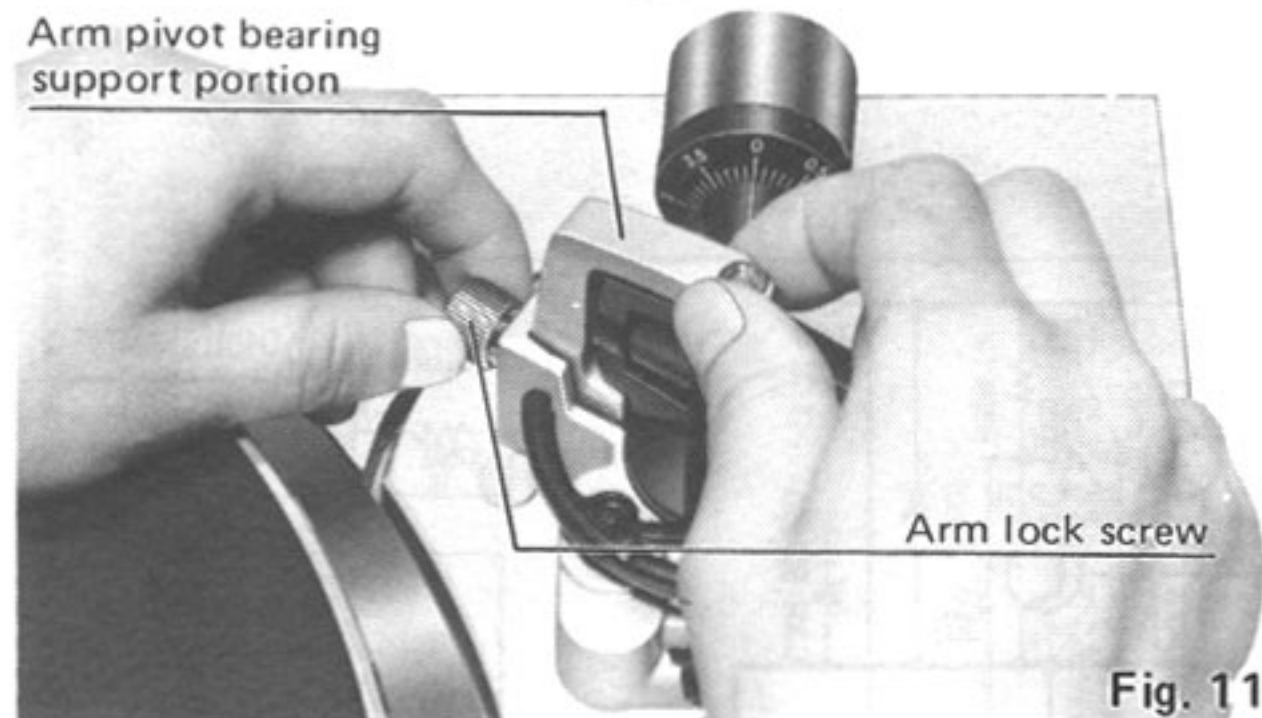
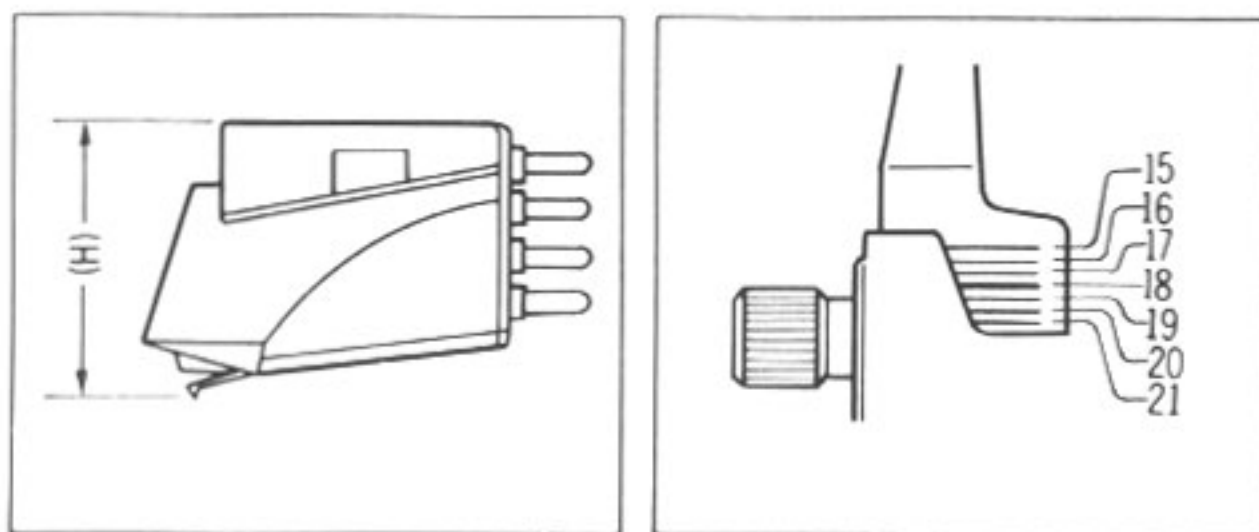

Fig. 11
Fig. 12
**Adjustment of the arm height. (See Fig. 11, 12)**
- If the cartridge height is 18 mm as shown in figure 11, align the fourth line ("18") on the gimbal support portion with the arm base edge as shown in the picture. (See Fig. 12)